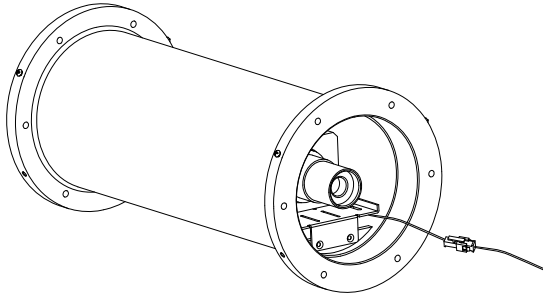

Figure 6-9
2. Fix housing onto the bracket upper adapter by installation holes drilled on base. Then pack up cables. First, arrange cable along the housing and pull out cable through the cable hole on housing base, then through the hole between lower adapter and wall mount bracket, and lead out cable from the hole on the wall or lower part of wall mount bracket (make sure cable connection is smooth and flexible). If leading out cable from lower part of wall mount bracket, please pay attention to fixing cable fastener. Refer to Figure 6-9 (take cable from lower part of wall mount bracket as an example).